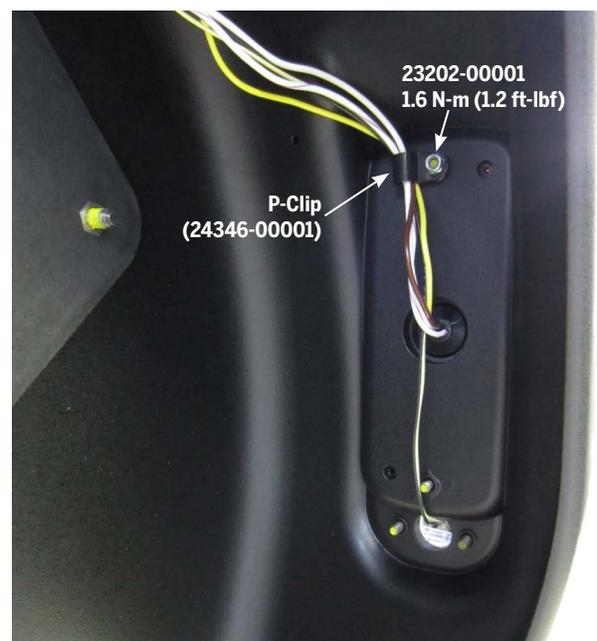

Figure 58: Tail Light Harnesses
3. Use a 7 mm socket wrench, remove the lock nut and P-clip on the back of the Brake Light. See **Figure 58**.
6. Install a P-clip around the pigtails from both the Brake Light and Directional Light (see **Figure 58**). Slide the P-clip onto the upper Brake Light fastener.